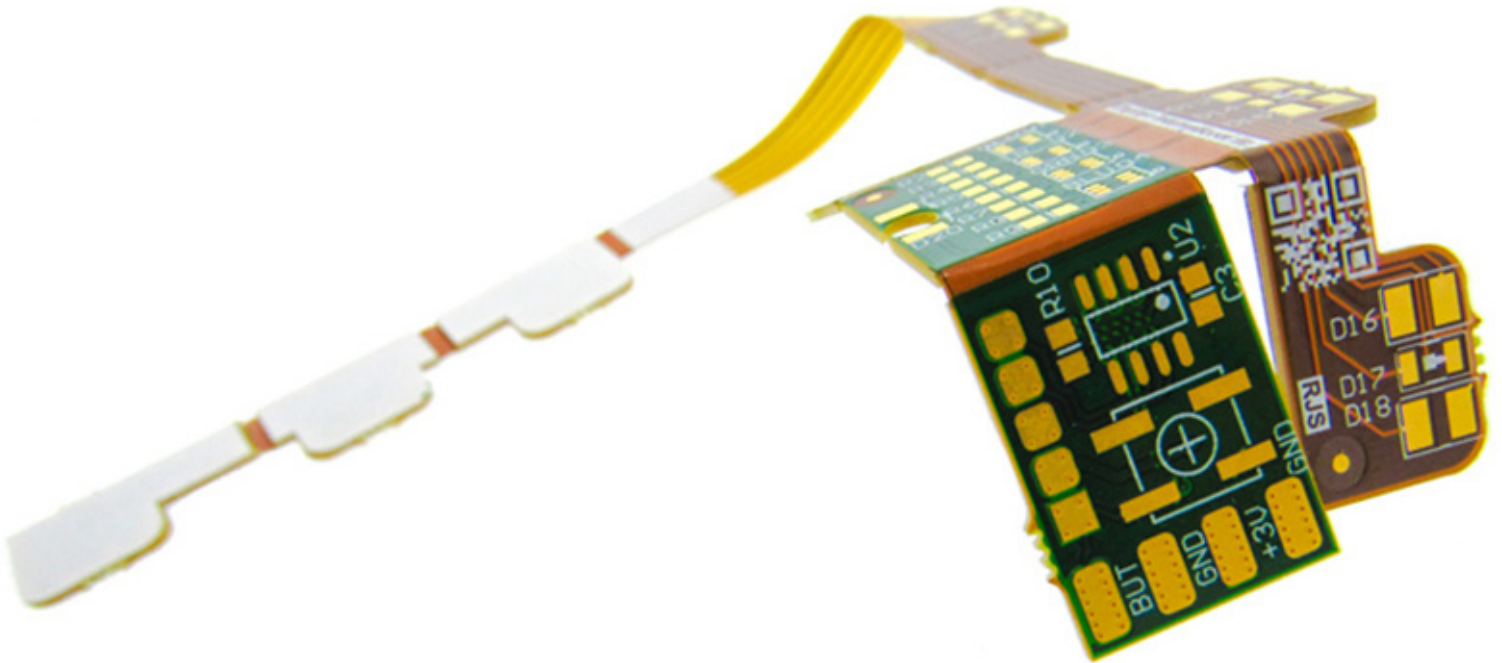

Figure 1: Portable electrical device integrated rigid-flex circuit board.
Portable electronic devices have unique design and manufacturing considerations necessary to meet many specific requirements. The internal circuitry must provide high reliability for the application as well as stand up to harsh environments. The device may experience large fluctuating temperatures, wet and humid climates, physical shocks, electromagnetic interference (EMI), or radio frequency (RF) interference. In addition, the circuitry also must fit within limited spacing within the product. Portable devices are becoming smaller, thinner, and bendable, such as phones, smartwatches, wearable fitness trackers, inventory trackers, and dental surgery eyeglasses. The circuit type (Figure 1) used must accommodate these sizes and still be lightweight enough to carry and use comfortably.